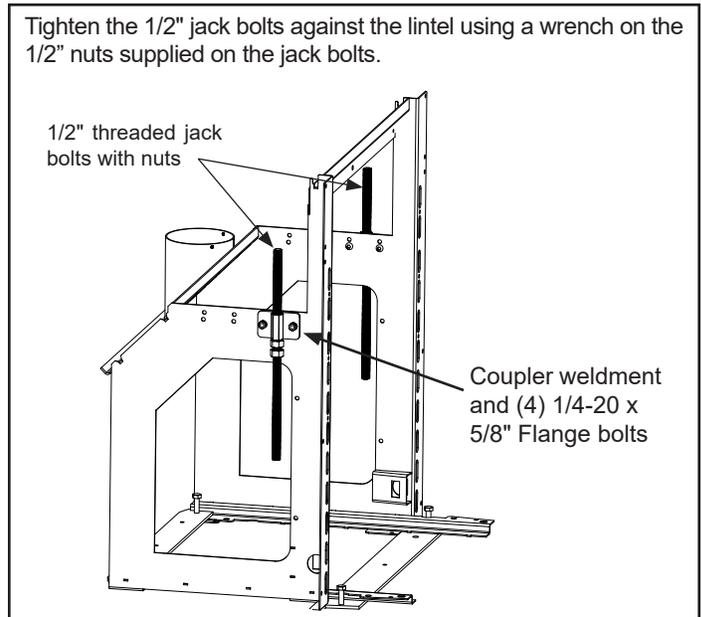

Figure 8.7 - Install jack bolts
Install the coupler nut weldments to the frame in the hole location that suits your needs with the (4) 1/4-20 x 5/8 flange screws and nuts and 1/2" jack bolts. Install the mounting frame into the opening and adjust these bolts to insure the frame is level, Figure 8.7.